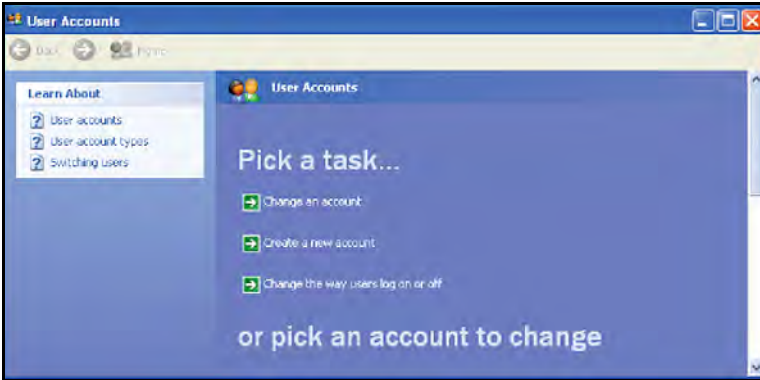

Figure 109: User Accounts Window
2. When the *User Accounts* window (see *Figure 109* below) opens, click Create a New Account.